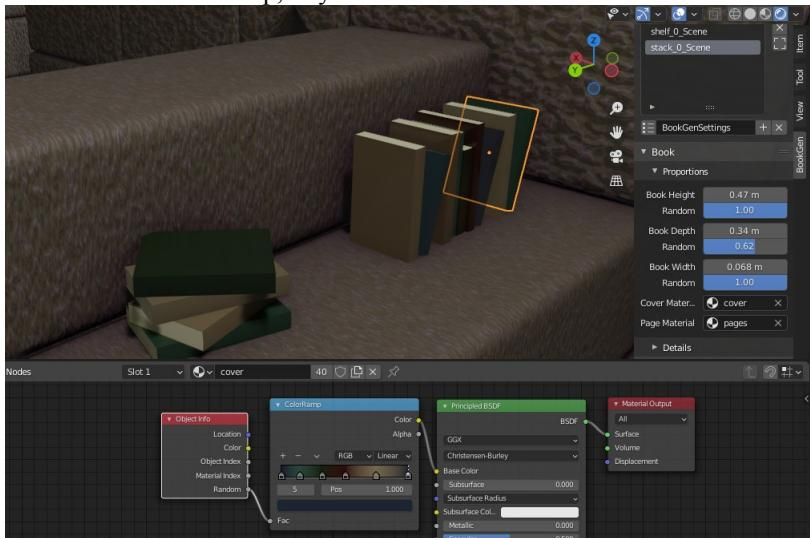

Figure 6-8 BookGen with random cover colors
5. The original BookGen add-on followed the normal convention of putting all its controls in a tab in the Sidebar. However the simple version uses **Object ▾ Book Gen Simple**. It creates books at the 3D cursor and the number is controlled in the Adjust last Action window. Figure 6-8 was very quick to set up using the wall factory and this book generator. Each book is a separate object so it is quite simple to create random colors for each cover, using the object info node random output and a color ramp, as you can see in the material nodes at the bottom.